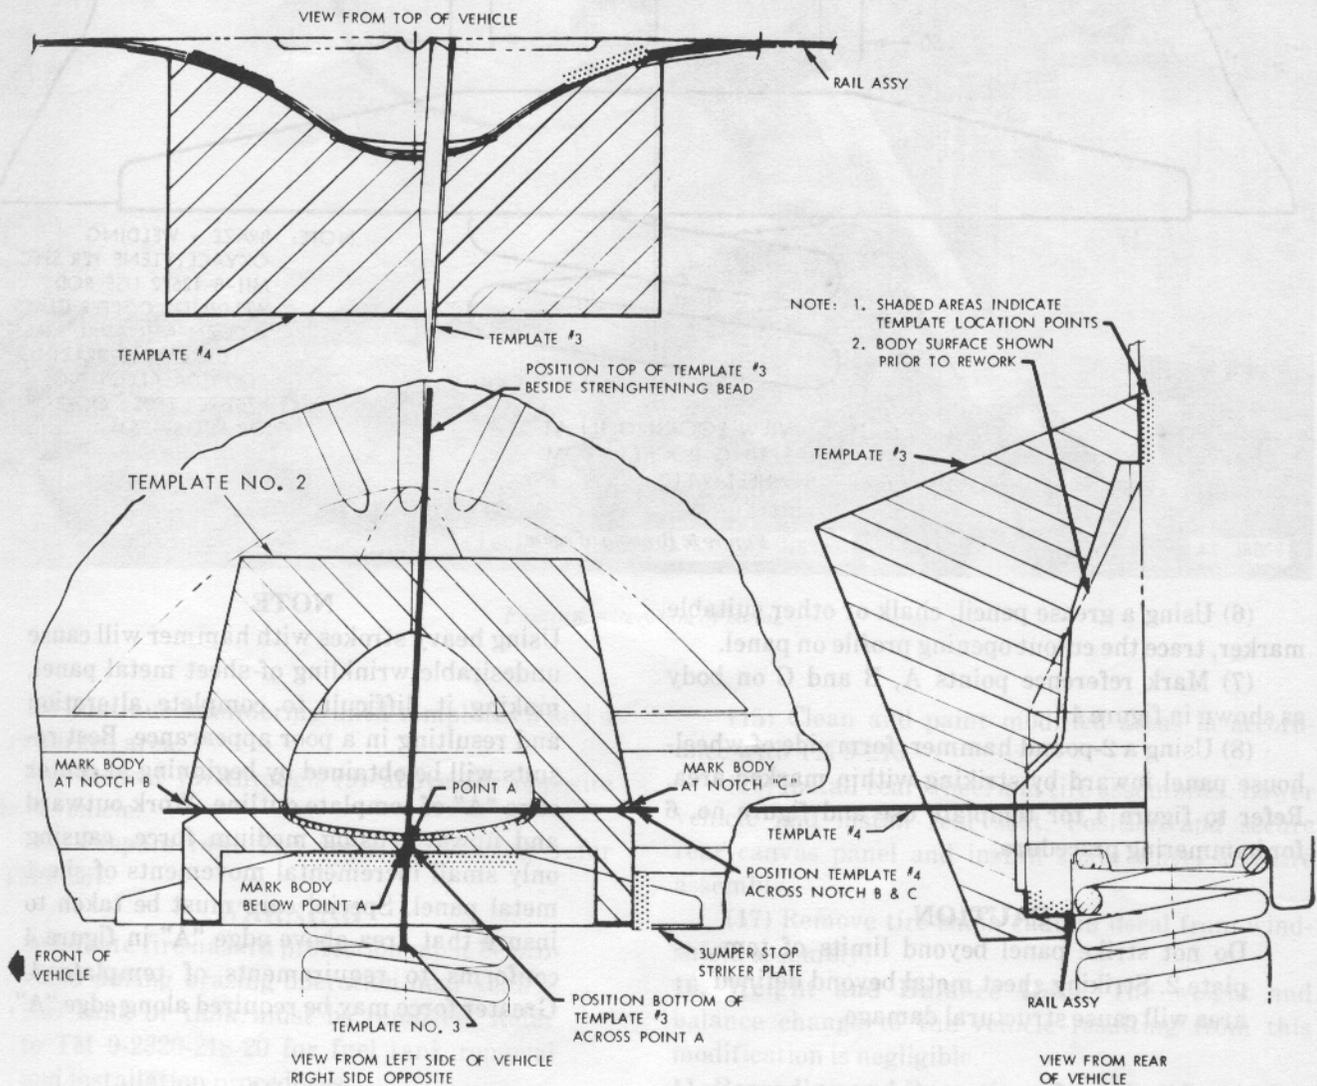

Figure 4. Positioning of templates.
(2) Remove spare tire and rear seat assembly. Loosen and fold rear canvas over the top and clear vehicle cargo area of all debris.
(3) Raise body, permitting both rear wheels to hang freely, to provide maximum working space.
(4) Remove both rear wheel and tire assemblies.
(5) Position template 2 on right or left body rear wheelhouse panel outer surface as indicated on figure 4.
(6) Using a grease pencil, chalk or other suitable marker, trace the cutout opening profile on panel.
(7) Mark reference points A, B and C on body as shown in figure 4.
(8) Using a 2-pound hammer, form side of wheel-house panel inward by striking within marked area. Refer to figure 4 for template use and figure no. 6 for hammering procedure.
Using heavy strokes with hammer will cause undesirable wrinkling of sheet metal panel, making it difficult to complete alteration and resulting in a poor appearance. Best results will be obtained by beginning at center edge "A" of template outline. Work outward and upward, using medium force, causing only small incremental movements of sheet metal panel. Special care must be taken to insure that area above edge "A" in figure 4 conforms to requirements of template 4. Greater force may be required along edge "A".